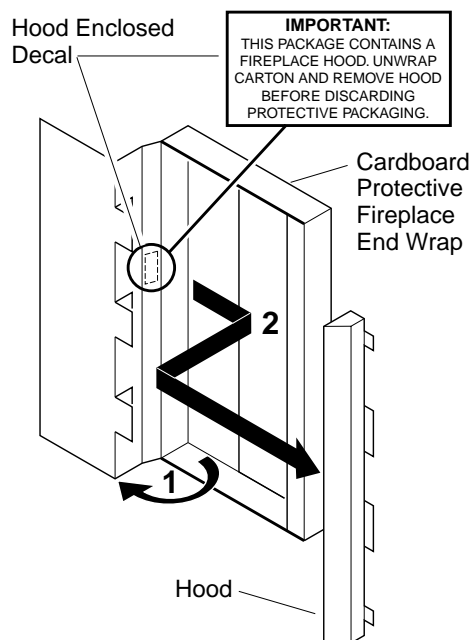

Figure 2 - Removing Fireplace Hood
**IMPORTANT:** The fireplace hood is inside the cardboard protective end wrap on the left side of fireplace (as viewed from front). A decal on the outside of the cardboard end wrap stating hood is enclosed (see Figure 2).
2. Remove hood from cardboard protective end wrap as shown in Figure 2.